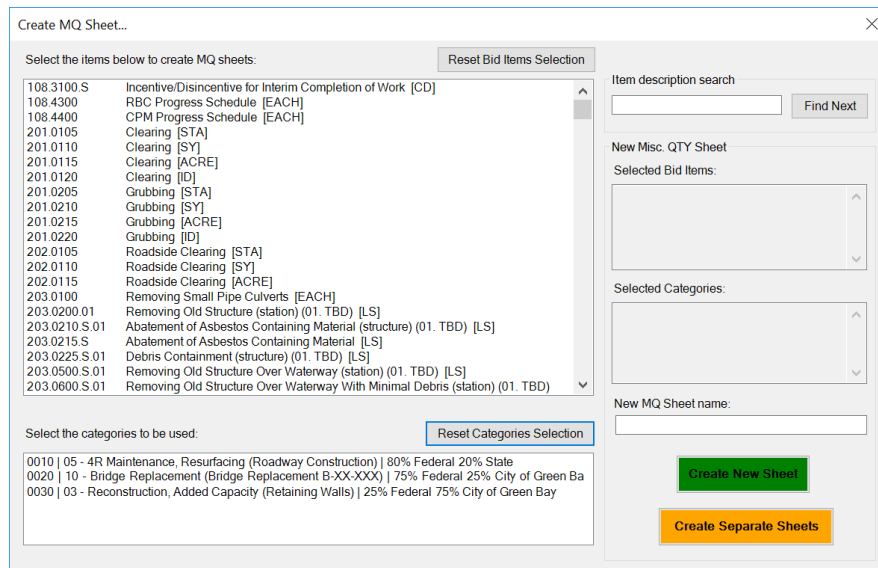

Figure 5.2 “Create MQ Sheet...” dialog box.
1. Once the “Create MQ Sheet...” dialog box appears (Figure 5.2), select the desired items and the appropriate categories to be associated with those items. You can type part of the item description in the search bar to navigate to a particular item in the list, but be aware that Q2P is unable to search within supplemental descriptions. Select multiple items/categories by holding either the “Shift” or “Ctrl” keys and clicking different items, or by clicking and dragging across your selection. To completely reset the selection, use either the “Reset Bid Items Selection” or the “Reset Categories Selection” buttons.